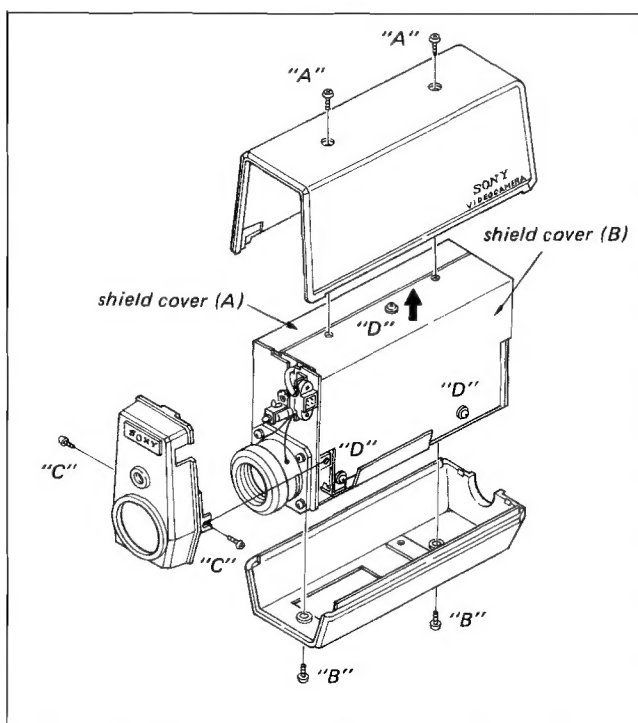

Fig. 2-1. Camera head unit disassembly
2. Remove two screws "A" shown in Fig. 2-1 securing the upper cover and remove the cover.
5. Remove five screws "D" holding the shield covers. Remove shield cover (B) first in the direction shown by the arrow. Then remove shield cover (A) in the same direction.